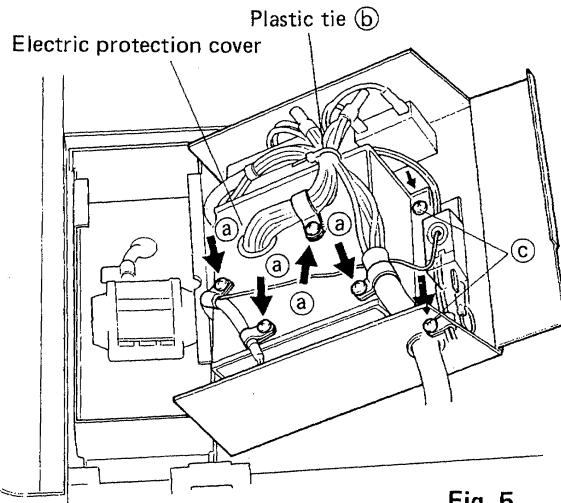

Fig. 5
- 6) When the two fixing screws (c) are removed, the electric protection cover can be removed. Fig. 5